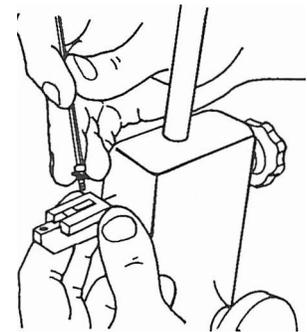

Fig. A-10
11. Use a 7/64" Allen wrench to attach the cutter guide (55) to the support (58) with a 3/8" long cap screw (53) and washer (54), as shown in Fig. A-10.